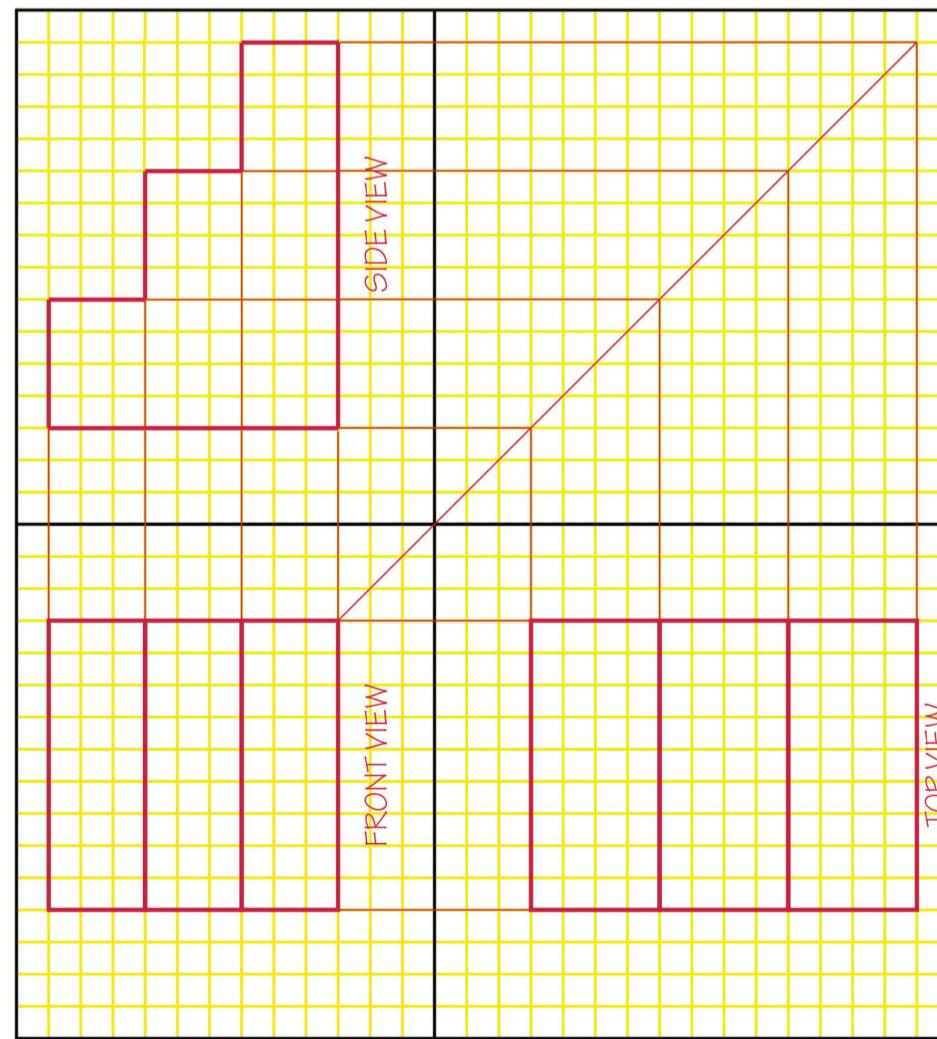

Figure 16
1. Figure 16 in the Learner Book shows a front view of the staircase. Divide a sheet of grid paper into four blocks. Copy the front view onto the top left block of your sheet of paper. Now use construction lines to draw a top view and side view in the bottom left and top right blocks.
The completed drawing in Figure 16 must look like this: